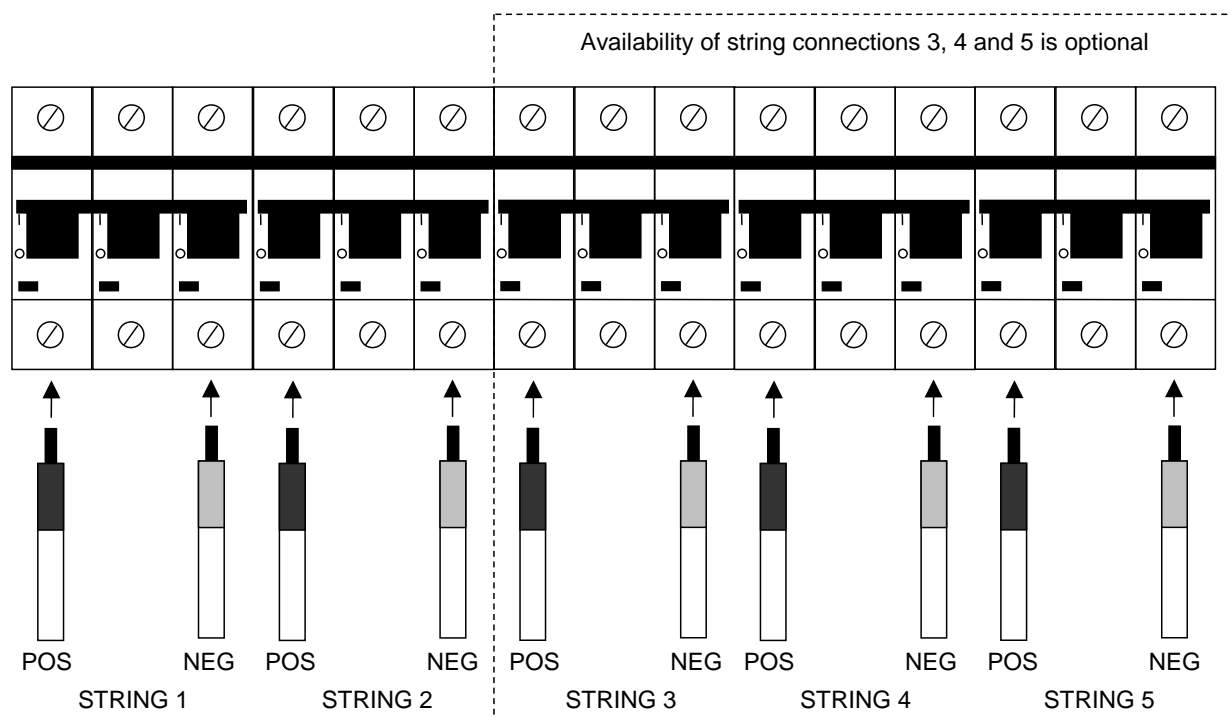

Figure 13: Connection of the DC wiring to the DC circuit breakers
See figure 13. To connect the DC cables, follow in detail all steps of the installation instructions in order of succession as described below.
- 4 Use cable end sleeves on the ends of the wires. These cable end sleeves should be crimped with a proper crimping tool. Fix the cable end sleeves to the correct DC breaker (see figure 13). Do not change the existing wiring!